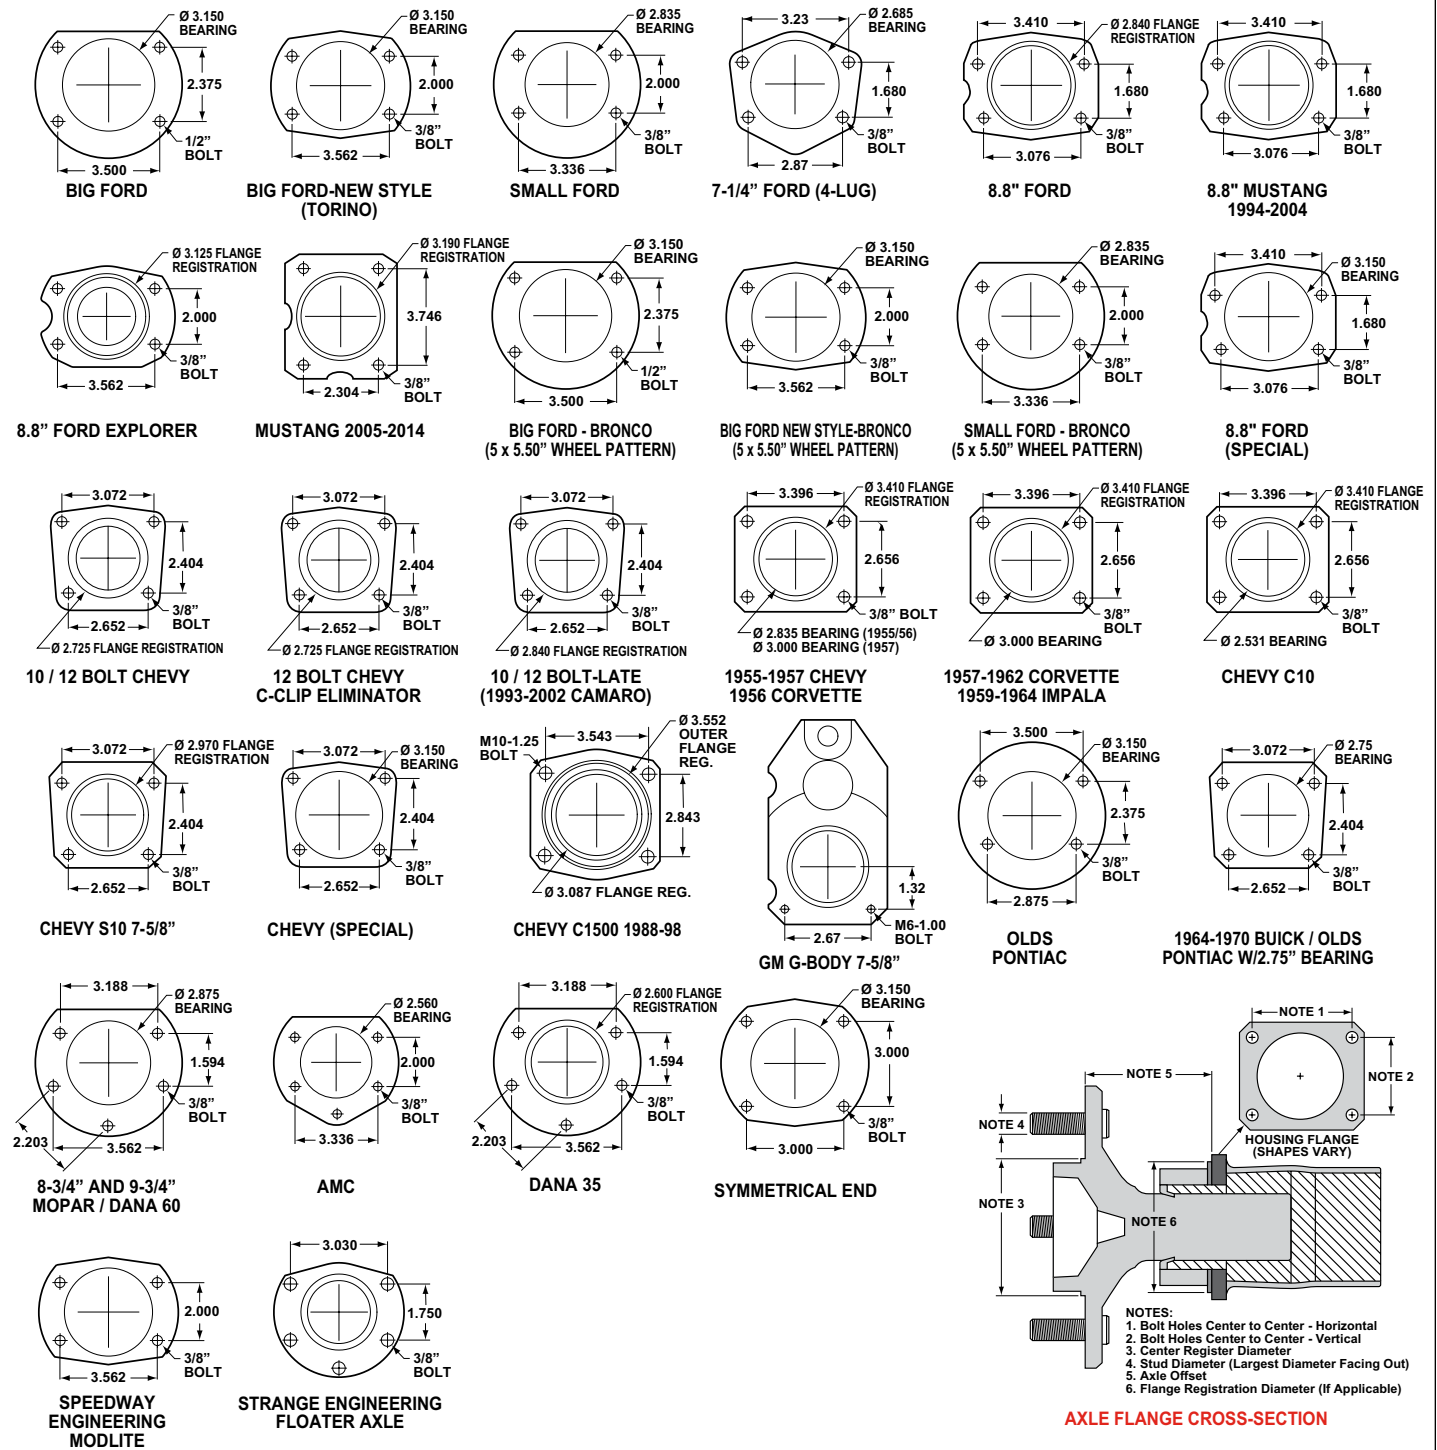

Figure 6. Rear Housing Flange Chart and Axle Flange / Offset Cross-Section
- Make sure this is the correct kit to fit your axle housing flange and axle offset. Multiple rear axle assemblies were available on 1966-77 Ford Broncos. Using Figure 6, check that your rear axle matches the description on page 1 of these instructions (i.e. Big Bearing Ford, New Style, 2.36" Offset).
- Dimension from wheel side of axle flange to wheel side of axle housing flange (see Figure 6, lower right hand corner). This dimension is critical to ensure proper alignment of the rotor to the caliper, and should match offset given in the kit description.